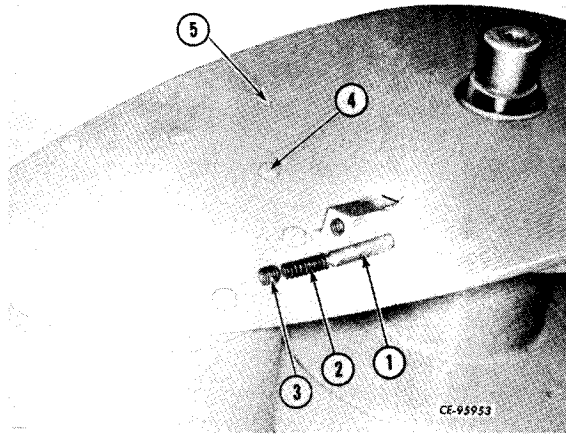

Figure 14-28
Install friction rod (1, Fig. 14-28), spring (2) and set screw (3) in cover. Refer to "ADJUSTMENTS" for brake adjustment procedure.